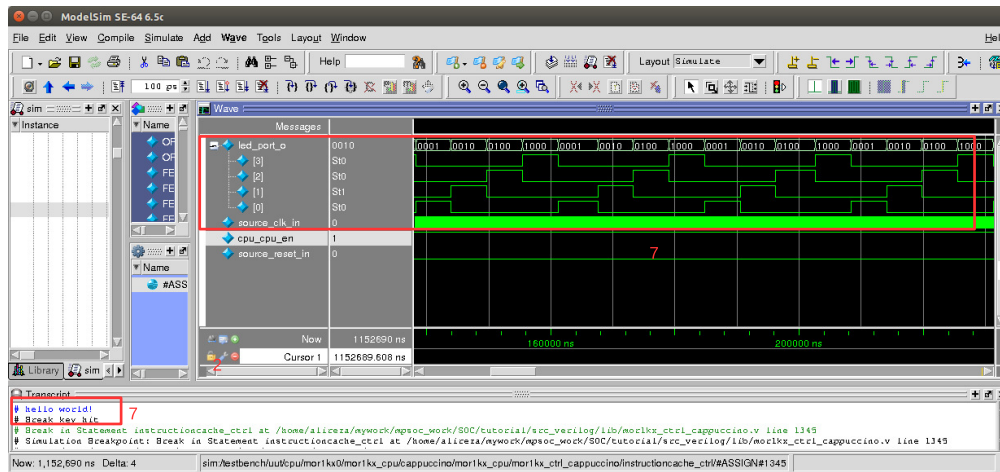

Figure 5.16: Modelsim output snapshot.
7. Figure 5.16 shows the Modelsim simulation output snapshot. You must see the "hello world!" in the Modelsim terminal. The output LEDs also must be seen as cyclic shift to the left of a one-hot code in the Signal Waveform Window.